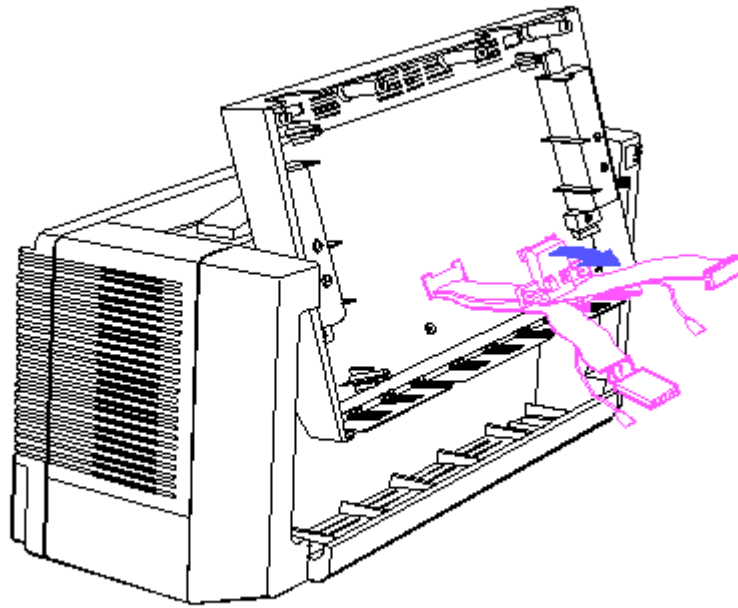

Figure 8-81. Removing the Display Cables
4. Remove the display power cable and the display data cable from the strain relief clip (Figure 8-81).